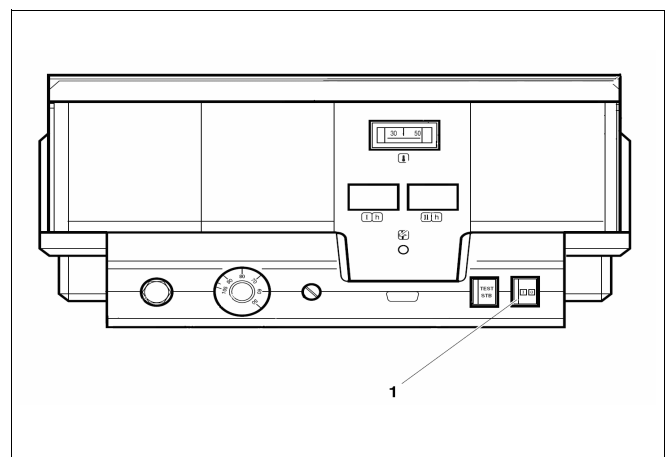

Fig. 3 Logamatic 4212 control unit
- Place the system On/Off (Fig. 3, **item 1**) into position "ON".